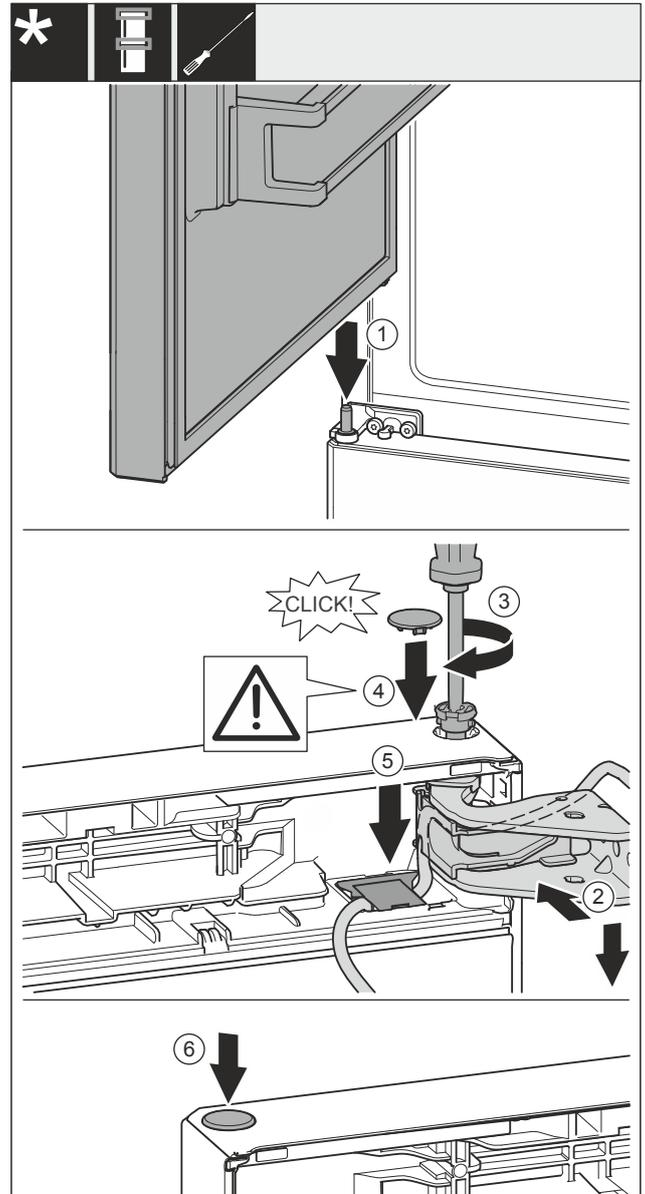

Fig. 60
- ▶ Place the top door on the centre bearing bolt Fig. 60 (1).
- ▶ Align the top door with the opening in the swap bearing block Fig. 60 (2).
- ▶ Insert the bolt Fig. 60 (3) and use screwdriver to tighten it.
- ▶ Insert the cover Fig. 60 (4).
- ▶ Check that the cover Fig. 60 (4) is resting on the door.
- ▶ Insert the cover Fig. 60 (5) and push down until it engages.
- ▶ Insert the cover Fig. 60 (6).